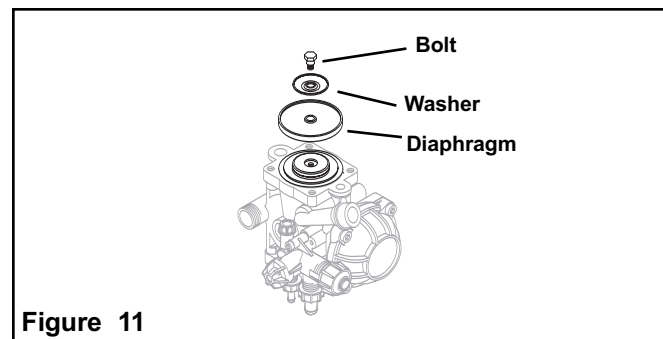

Figure 11
3. Remove the bolt securing the diaphragm (See Figure 11).
4. Remove the old diaphragm and the washer (See Figure 11).